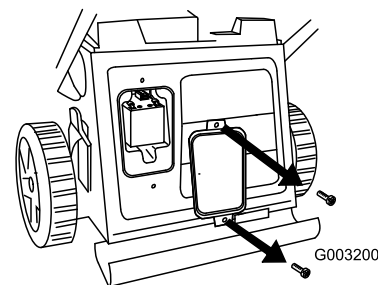

Figure 5
1. Remove the 2 screws that fasten the battery cover to the rear of the mower (Figure 5).